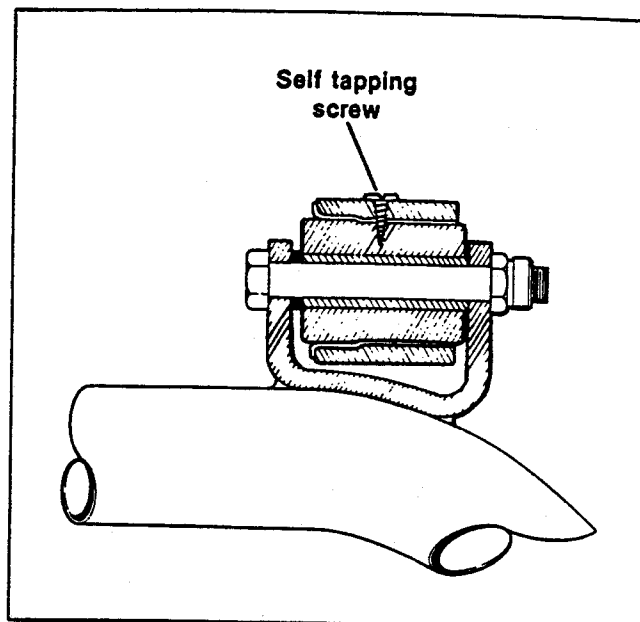

Figure 2-26. Fork Bushing Fix
5. See Figure 2-26. Using a No. 25 drill bit, drill a hole in the top center of the right side boss and bottom center of the left side boss. Insert a self tapping screw in each hole to hold the bushings in place.